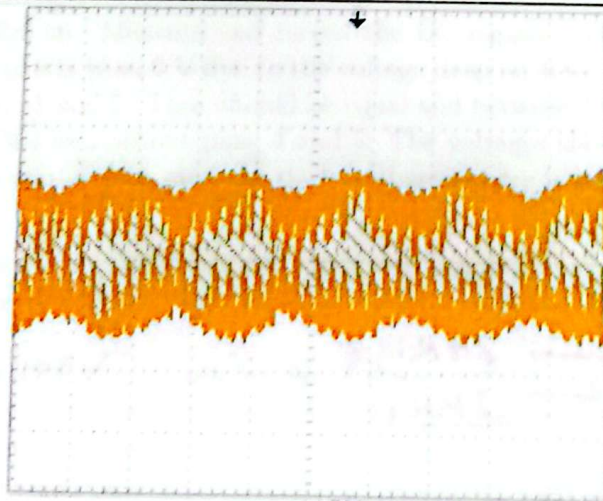

Figure 8: Oscilloscope photo of an AM modulated signal.
- Observe the signal between JP30 and GND. You should see an amplitude modulated (AM) 27.000 MHz signal as shown in Fig 8. Set your oscilloscope time scale to 500 μ s/div. Set the ACQUIRE mode to Peak-detect. This setting allows the oscilloscope to capture the peak of the RF signal even though the sampling rate of the oscilloscope is not enough to capture the RF signal itself. Increase the signal amplitude of the signal generator until